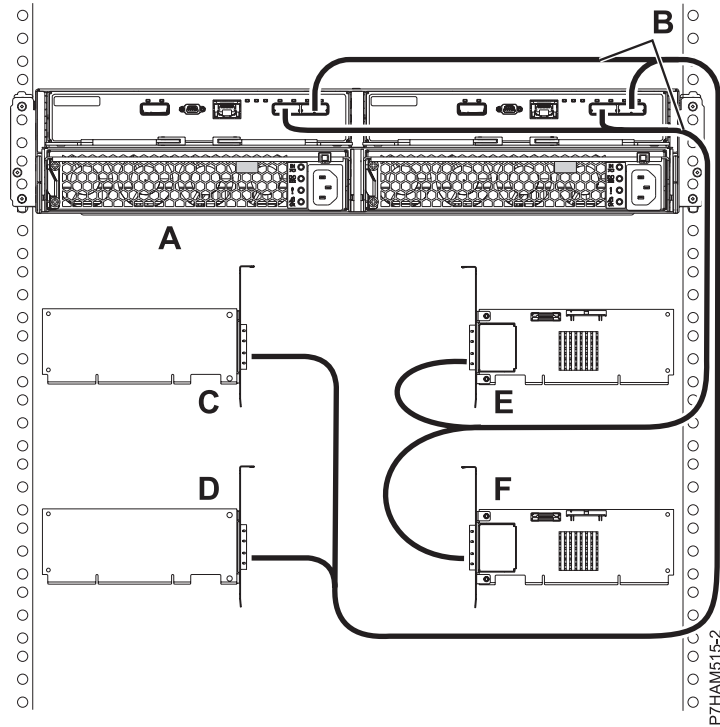

Figure 36. Mode 4 connection of one 58/87 disk drive enclosure by using X cables to four independent SAS adapters
- q. Perform the mode 4 connection of one 58/87 disk drive enclosure (A) by using X cables (B) to four independent SAS adapters as shown in Figure 36 on page 33.